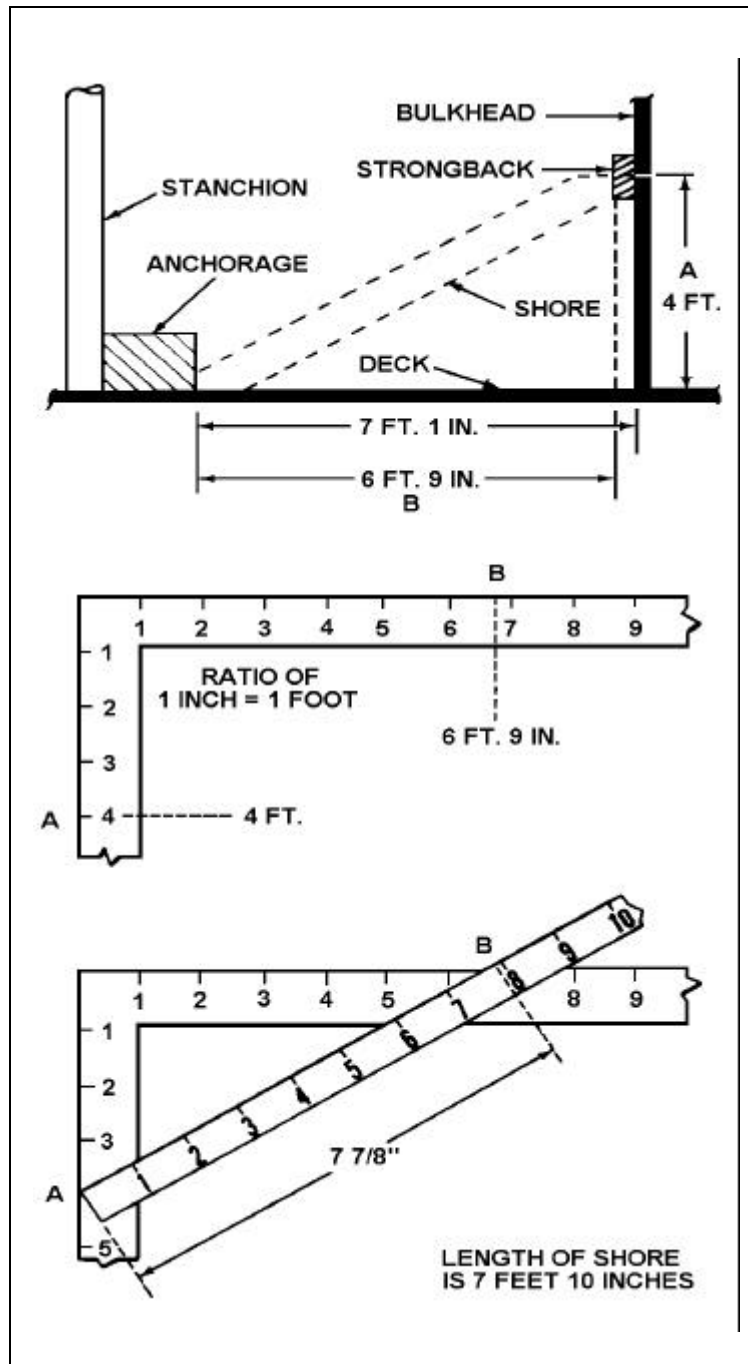

Figure 22-9. Measuring Length of Shore
- Measure the diagonal distance between A and B. Figure 22-9, page 22-12, shows this distance as 7 7/8 inches. Because of the 1 inch to 1 foot ratio, the distance in feet would be 7 7/8 feet or 7 feet 10 1/2 inches.